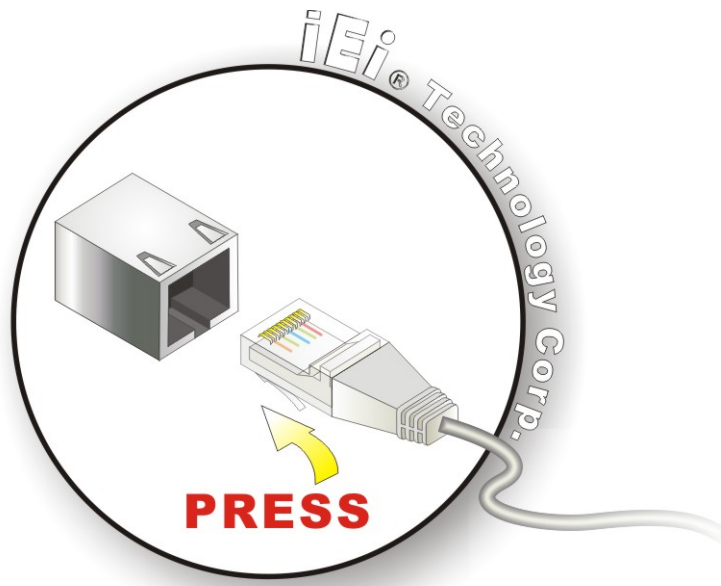

Figure 3-18: LAN Connection
Step 2: **Align the connectors.** Align the RJ-45 connector on the LAN cable with one of the RJ-45 connectors on the bottom panel of the AFL-xxx-9103. See **Figure 3-18**.